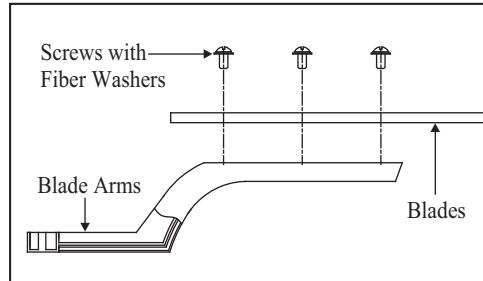

Figure 13
1. Attach blades to blade arms using three screws with fiber washers (Fig. 13). Start a screw into the blade arm, do not tighten. Repeat for the 2 remaining screws and washers.